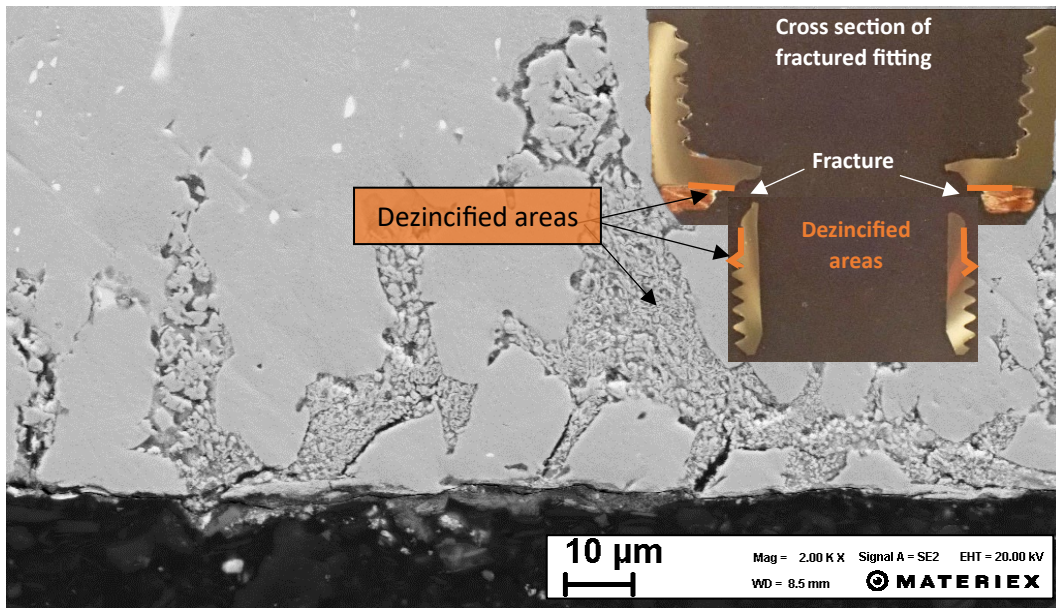
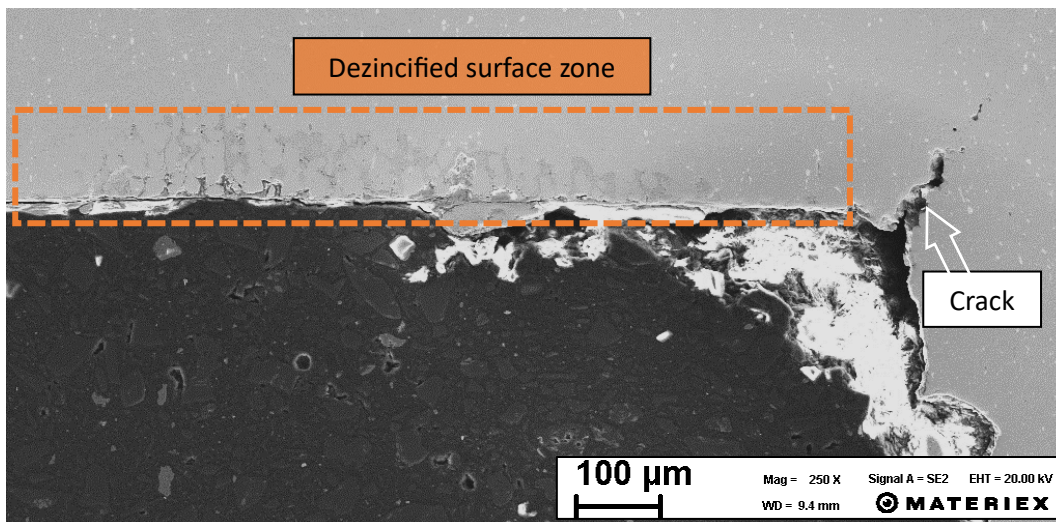

Figure 3. SEM-image of dezincified surface adjacent to the crack initiation sites (fractured area).
Figure 4. Non-leaking fitting shows dezincified surface and cracking in the same area as the fractured fitting.
- Investigation in SEM showed that the area adjacent to the fracture surface had suffered from dezincification (Figure 3). The same area in the non-leaking fitting had also suffered from dezincification and smaller cracks (100 µm) were observed (Figure 4). Dezincification is a corrosion process that selectively removes zinc from the brass alloy (if Zn>15%), leaving a porous copper-rich structure with reduced mechanical strength.